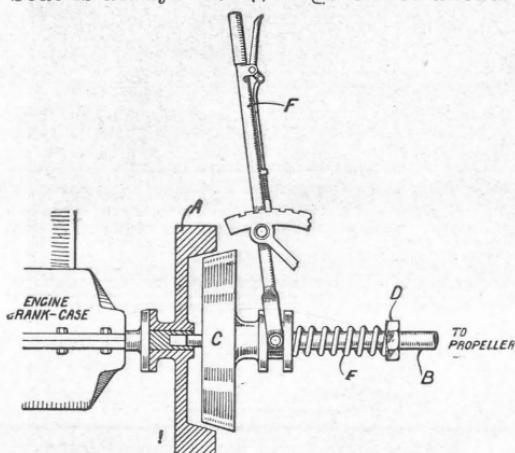

Fig. 1.—Diagram of cone clutch.
By far the commonest form of clutch is the cone variety shown in Fig. 1. The flywheel (A) coupled direct to the engine crankshaft is turned inside to a cone or taper form, as shown. The propeller shaft (B), instead of being coupled direct to the engine as in a steam boat, has a clutch